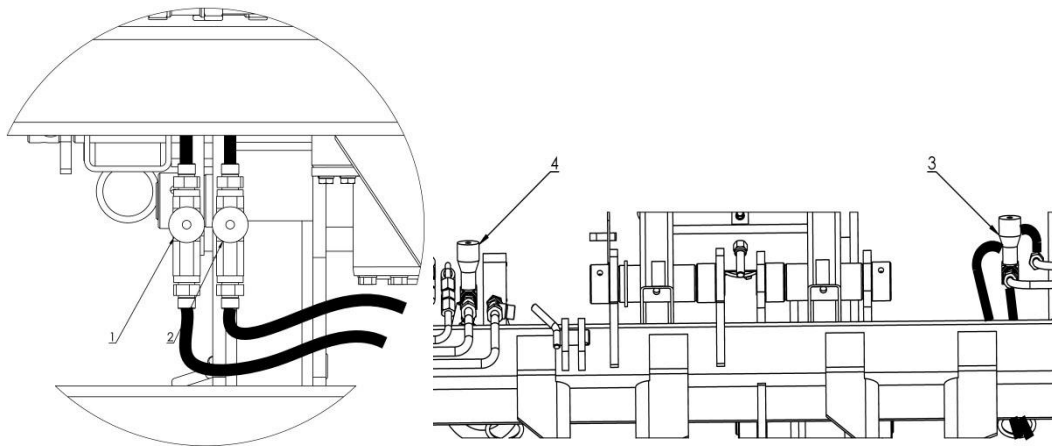

Fig. 13. Location of check-throttle valves.
Locations of check throttle valve are shown in fig. 13, chapter 5.3.
Two check-throttle valves (fig. 13, items 1 and 2) controlling the unloading of the turntable are installed next to the actuator for lifting and lowering the wrapper's turntable during the bale unloading. They allow for a setting ensuring smooth movements of the rotary frame and bale unloading unit.
The check throttle valve (Fig. 13, item 3) installed at the back of the main frame at the return path of the bale unloading system's actuator which is responsible for smooth lowering of a bale being unloaded on the bale on end kit.
The check throttle valve (Fig. 13, item 4) is responsible for releasing pressure from the hydraulic engine braking at the moment of the turntable movement.